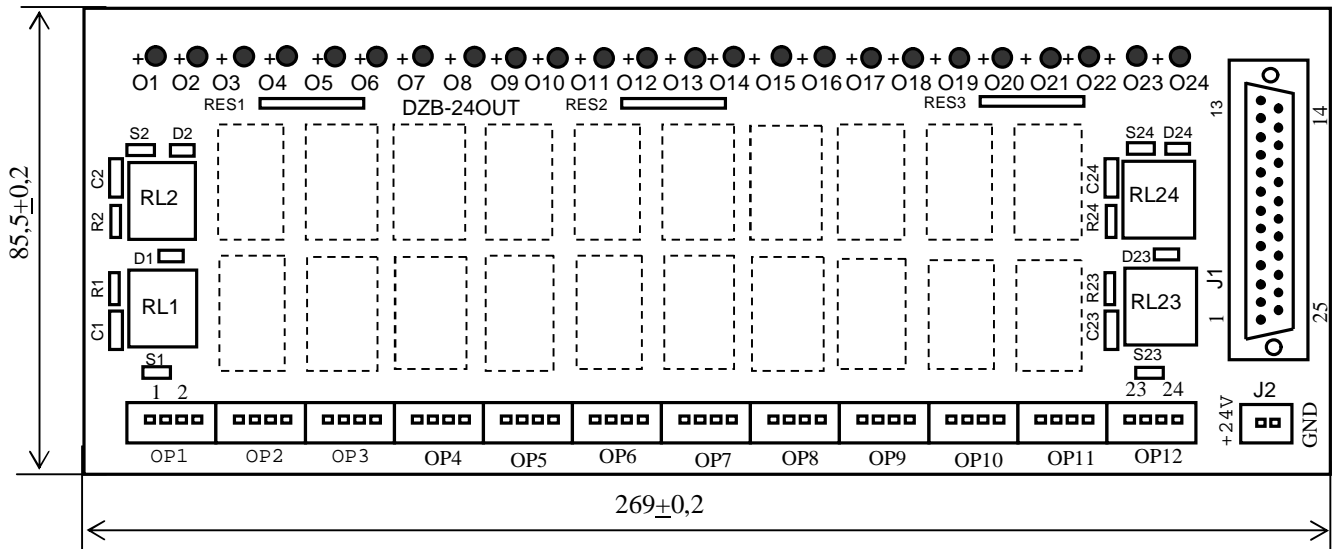

Figure D.3
14.4.1 The external view of the NC210-401 module is presented in Figure D.3. The module height is 56 mm max. The module can be mounted onto a DIN-strip.